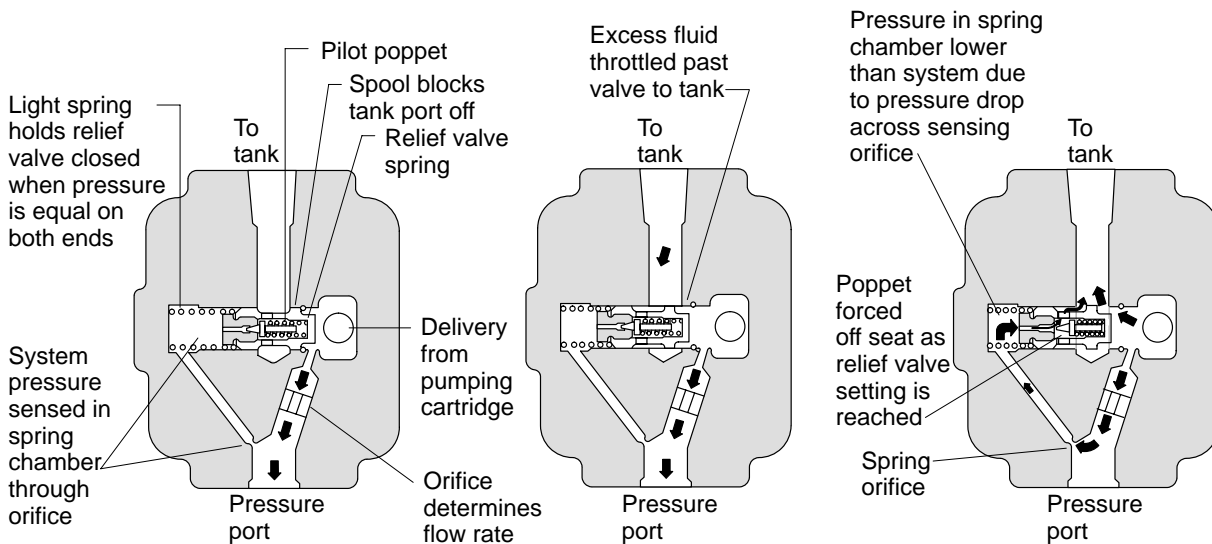

Figure 4A
2. Figure 4A shows the condition when the total pump delivery can be passed through the orifice. This condition usually occurs only at low drive speeds. The large spring chamber is connected to the pressure port through an orifice. Pressure plus spring load in this chamber slightly exceeds pressure at the other end of the relief valve spool and the spool remains closed. Pump delivery is blocked from the tank port by the spool land.